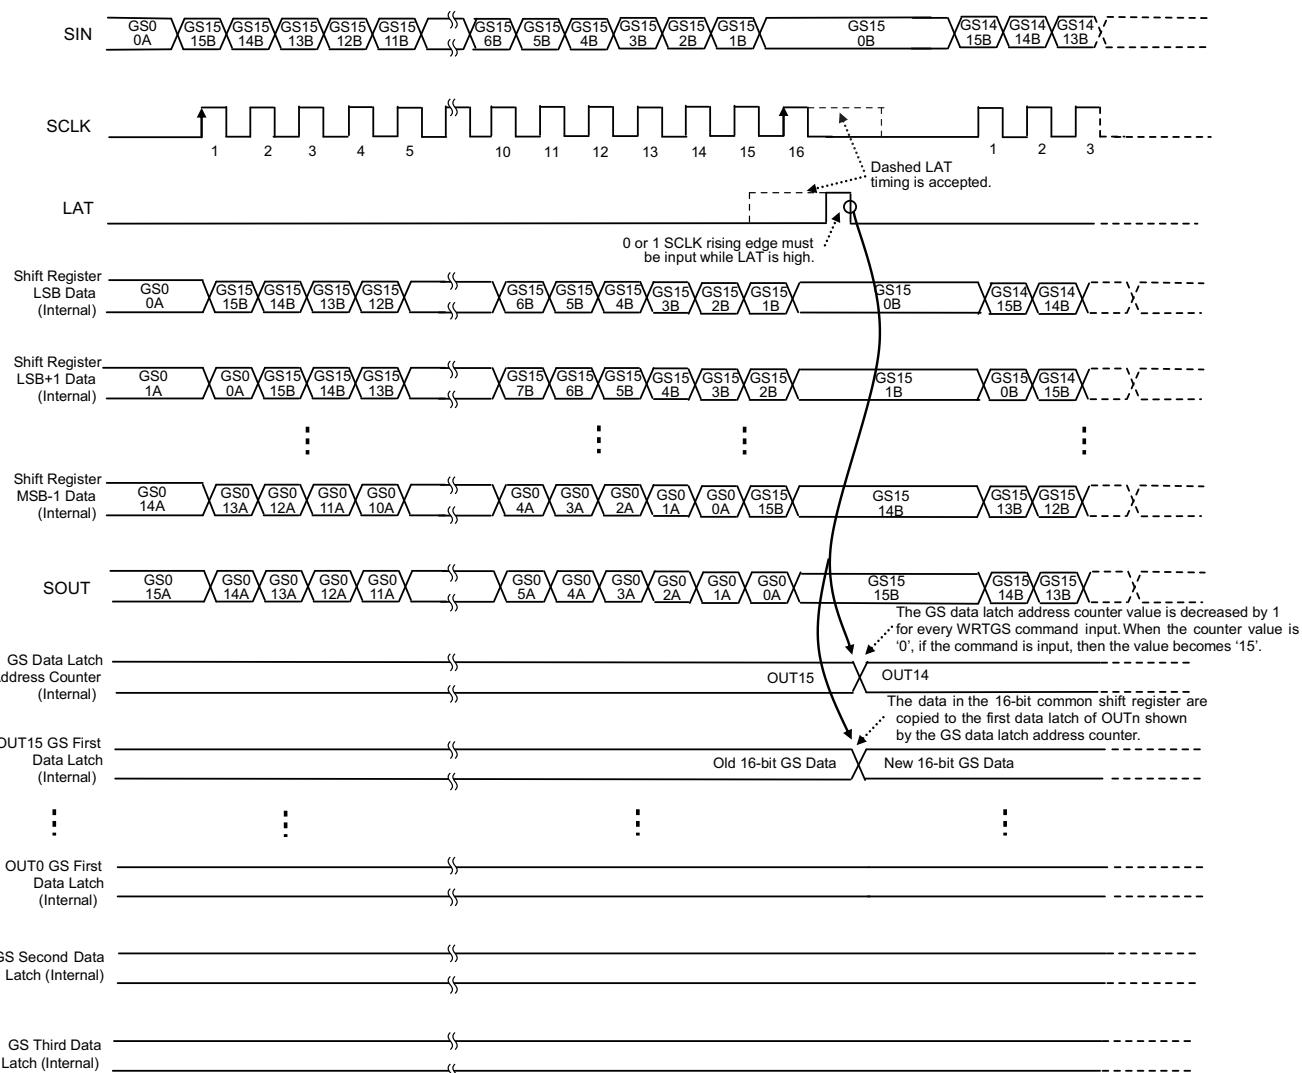
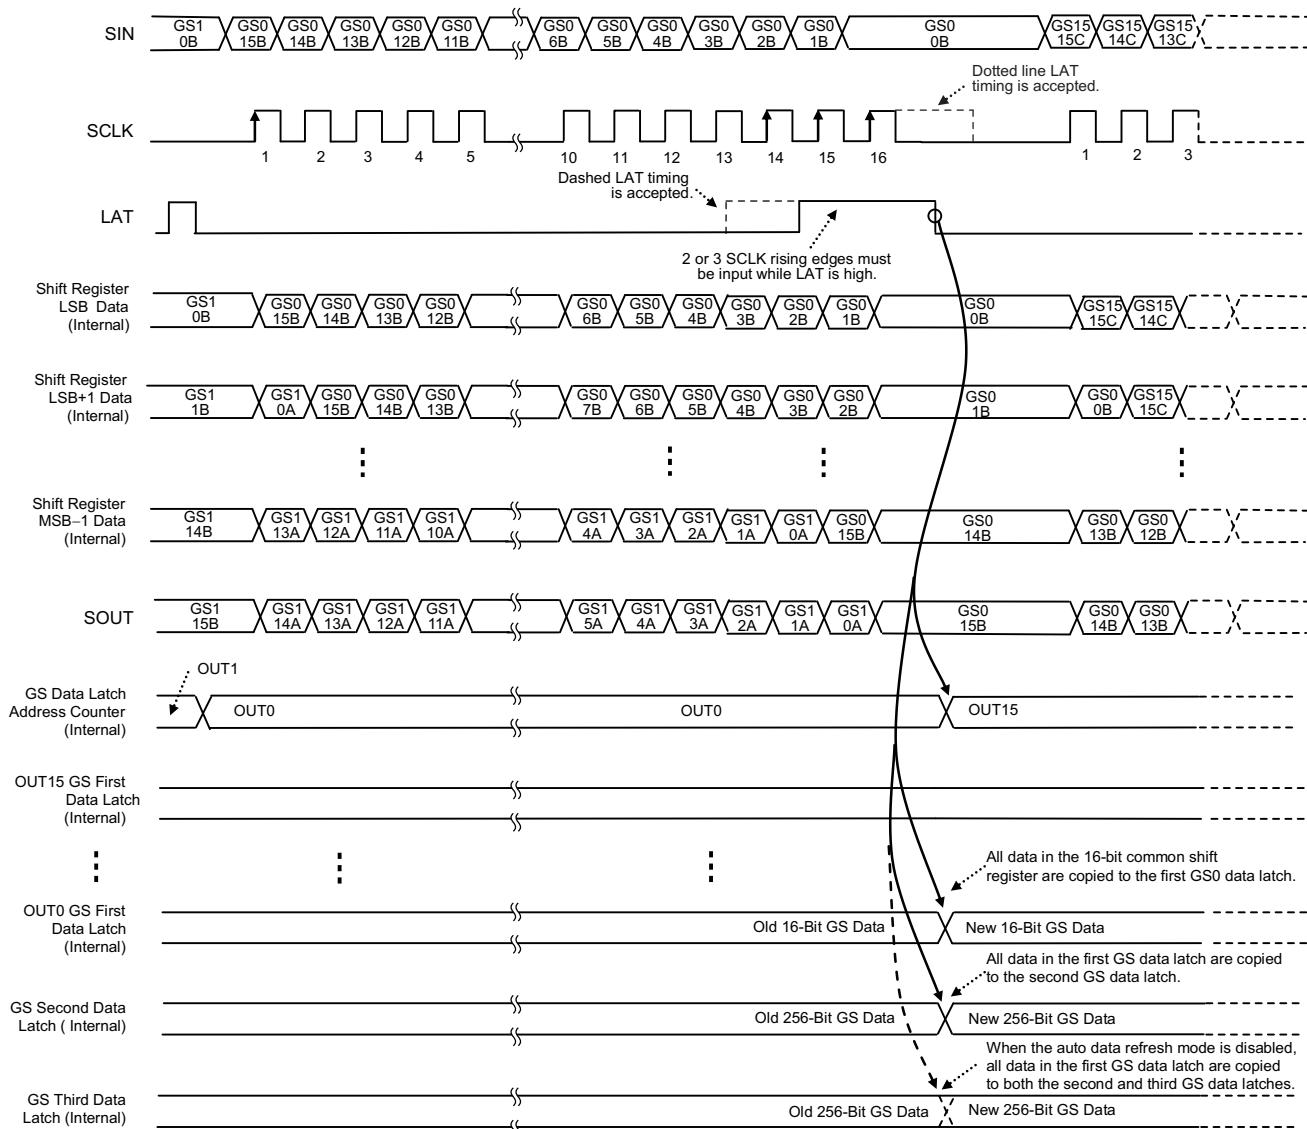

Figure 22. 16-Bit GS Data Write (WRTGS) Command
Figure 23. 256-Bit GS Data Latch (LATGS) Command (LATMODE = 0)
The first, second, and third grayscale (GS) data latches are each 256 bits long, and set the PWM timing for each constant-current output. The on-time of all constant-current outputs is controlled by the data in the third GS data latch. The 16-bit data are copied to the first GS data latch indicated by the GS data latch address counter when the WRTGS command is input. The 256-bit GS data for OUTn in the first data latch are copied to the second GS data latch when the LATGS command is input. The 256-bit data in the second data latch are copied to the third GS data latch when the 65,536th GSCLK occurs with the XRFRESH bit in the FC data latch set to '0'. When the XRFRESH bit is '1', the 256-bit data in the first data latch are copied to the second and third data latch at the same time. When the device powers up, all constant-current outputs are forced off until GS data are written to the third data latch. The GS data write sequence is shown in Figure 22 and Figure 23.
| WRTGS (16-bit GS data write) | 0 or 1 | The 16-bit data in the 16-bit common shift register are copied to the 16-bit GS latch in the first latch selected by the GS data latch address counter. Refer to Figure 22 for a timing diagram of this command operation. |
| LATGS (256-bit GS data latch) | 2 or 3 | All data in the first GS data latch are only copied to the second GS data latch when the XRFRESH bit in the FC data latch is '0'. All data in the first GS data latch are copied to both the second and third GS data latches when the XRFRESH bit in the FC data latch is '1'. The GS data latch address counter is initialized to OUT15 at the same timing. Refer to Figure 23 for a timing diagram of this command operation. |